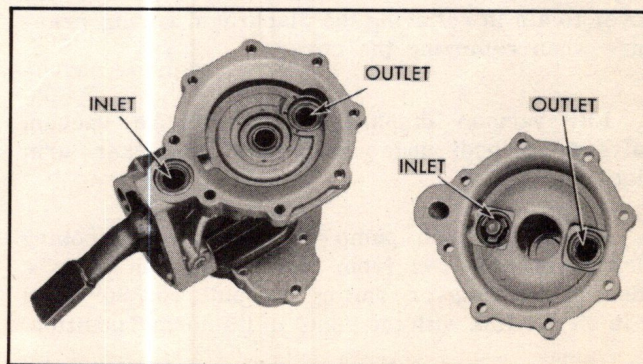

Fig. 4 Proper Installation of Inlet and Outlet Valves
4. Place valve and cage gasket in recess located on vacuum end of body, opposite mounting flange. Press valve and cage assembly against gasket with three-legged spider down (see Fig. 4). Retain by staking body in two places.
1. Place two valve and cage gaskets in vacuum cover and press into position. Inlet valve must have three-legged spider facing out of cover and outlet valve must have three-legged spider facing into cover as shown in Fig. 4. Secure valve and cage assemblies by staking each in two places.